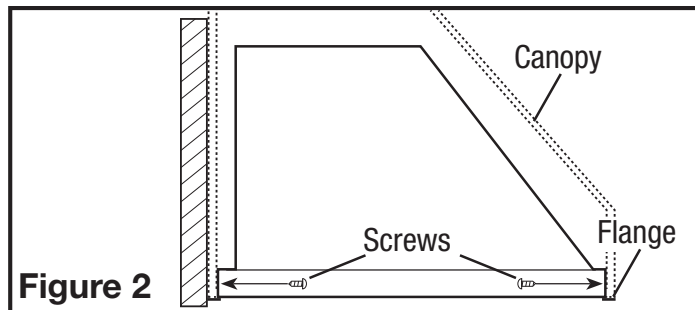

Figure 2
- Lift unit up into position so that the bottom flanges are in solid contact with the bottom of the canopy or cabinet. Using the included wood mounting screws, secure the unit to the canopy or cabinet by driving the screws through the holes (Figure 2).